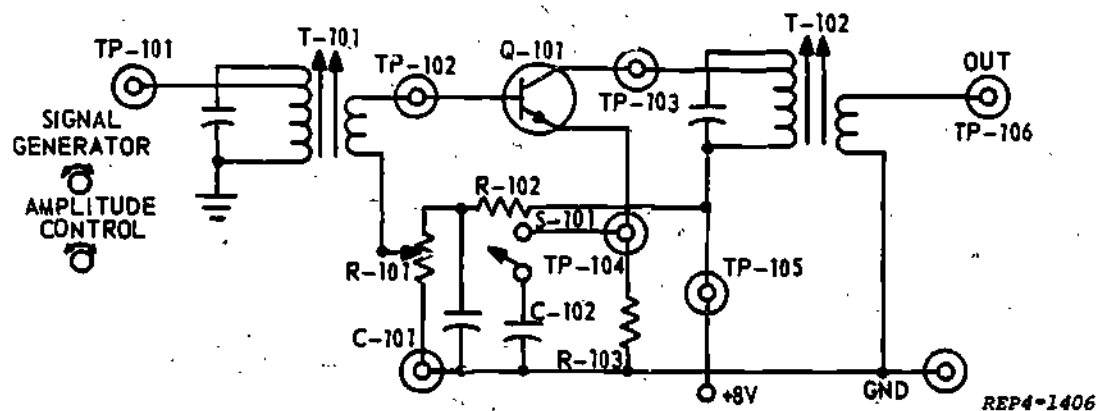

Figure 38-3. Transistor Radio Frequency Amplifier
a. The RF amplifier trainer schematic is shown in figure 38-3.